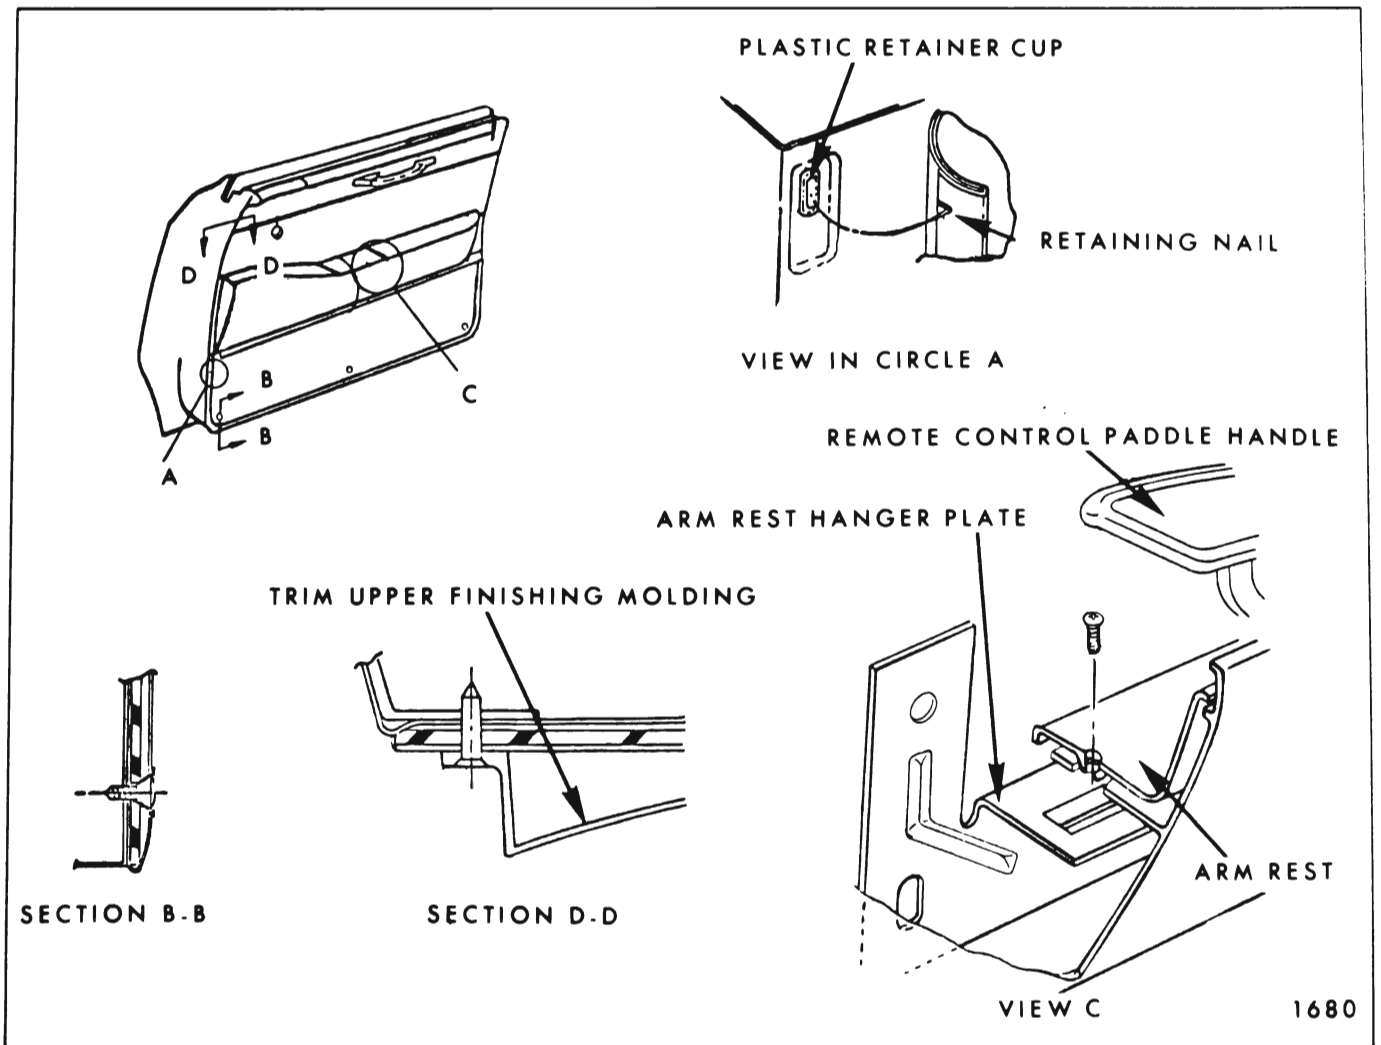

Fig. 14-12—Door Trim Pad Removal
9. Starting at a lower corner, insert tool J-6335 between door inner panel and trim assembly. Working upward, carefully disengage retaining nails from plastic cups inserted in door inner panel (Fig. 14-12).